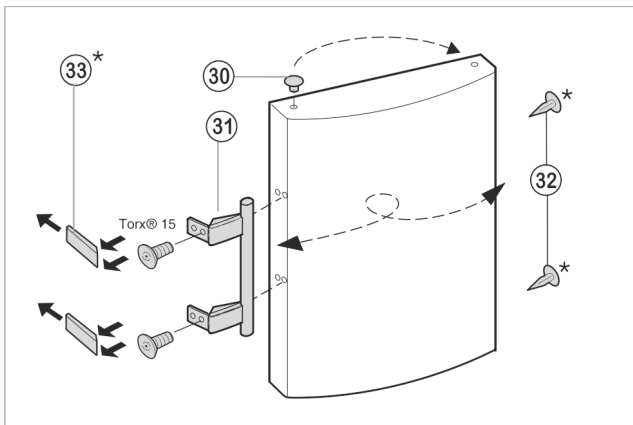

Fig. 8
- ▶ Lift the plug Fig. 8 (30) out of the door bearing bush and re-locate.
- ▶ Dismantle the door handle Fig. 8 (31), plug Fig. 8 (32) and pressure plates Fig. 8 (33), and re-locate to the opposite side.